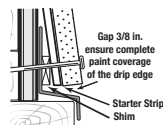

Figure 8
- In areas where the bottom drip edge of the siding is adjacent to flashing, provide a minimum 3/8 in. gap between bottom drip edge of the siding and the flashing (see Fig. 8).
- Install flashing in a manner that creates proper out-sloping (see Fig. 8).